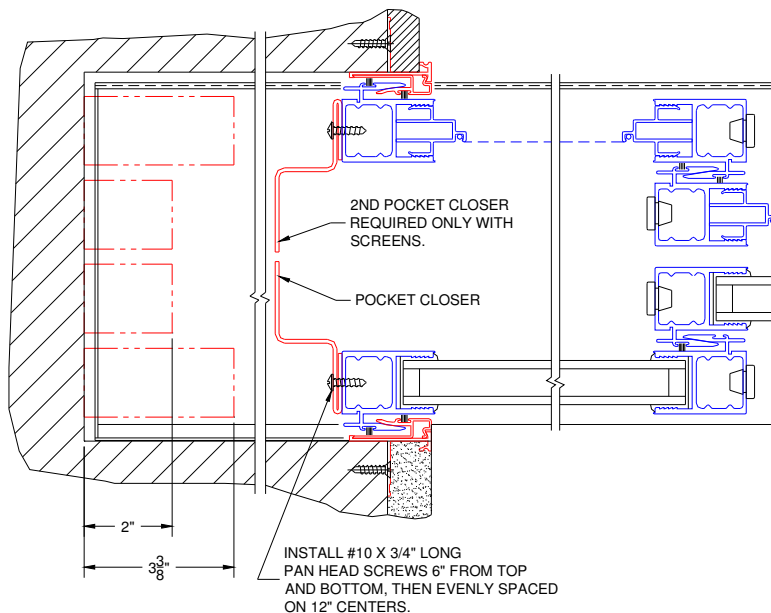

Figure 26:
2. Assemble pocket closer to back side of interlocker with #10 x 3/4" long pan head screws (Figure 26).